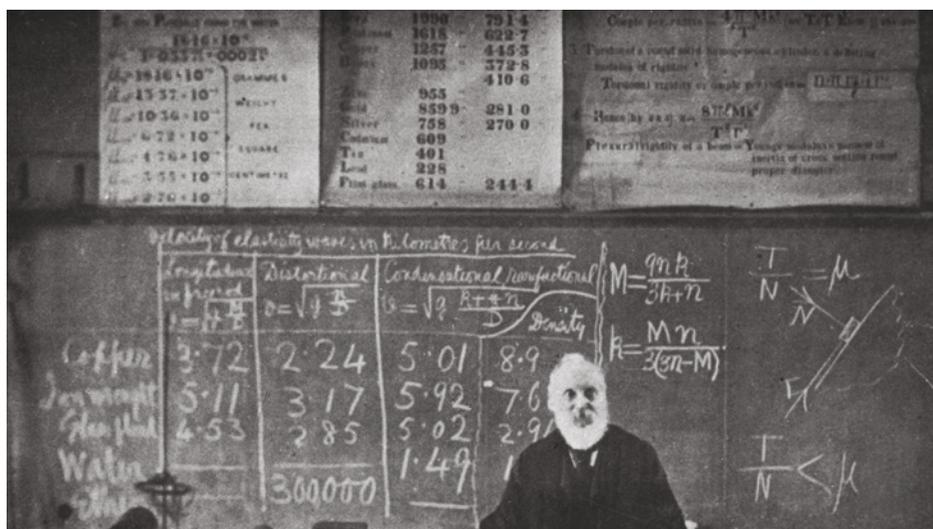

FIGURE 10.1.7 Kelvin (1824–1907) proposed the existence of absolute zero in 1848 and the use of an absolute temperature scale.
Temperature can be measured with a thermometer on the **Celsius** ($^{\circ}\text{C}$) scale, where 0°C is the temperature at which water freezes at a pressure of 101.3 kPa. In chemistry, temperature is often measured on the **Kelvin** scale (K). The Kelvin scale is named after Lord Kelvin (Figure 10.1.7) who proposed the scale in 1848. Zero on the Kelvin scale is the temperature at which particles have no energy, and is equivalent to -273°C . Temperatures can be converted from Celsius to the Kelvin scale by the relationship: